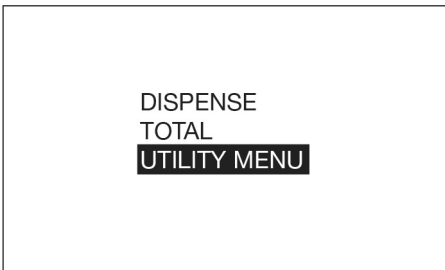

FIG. 11
2. Select the UTILITY MENU option (FIG. 11). (Instructions for accessing Menus are provided in **Menu Screens**, page 17.)